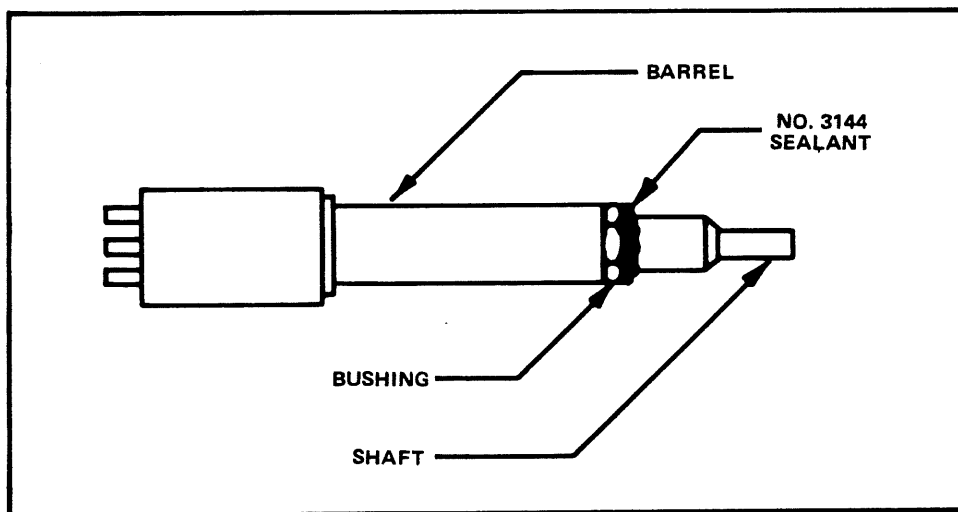

Figure 13. Application of sealant to FOCUS and INTENSITY controls.
STEP 17. Install the FOCUS and INTENSITY controls (see Figure 13).**A. RESISTOR, VARIABLE (2 ea.).**
- (1) 1502 TPN 311-0690-01, MPL Item 2-38 and Item 2-41.
- (2) 1503 TPN 311-0690-01, MPL Item 2-40 and Item 2-43.
- (3) These two variable resistors are used for FOCUS and INTENSITY control and are listed in the Electrical Parts List.